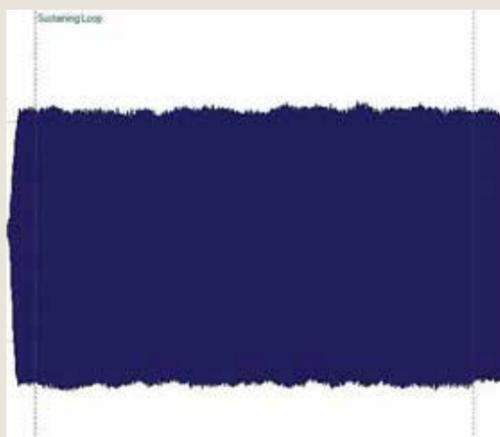

Figure 1
**REAL-TIME SAMPLING** involves recording of a pipe and an authentic the playback in real-time at the moment that the musician presses a key. To make the sound sustainable, the recording is set into a loop. An example of such a recording and its loop is given in figure 1.